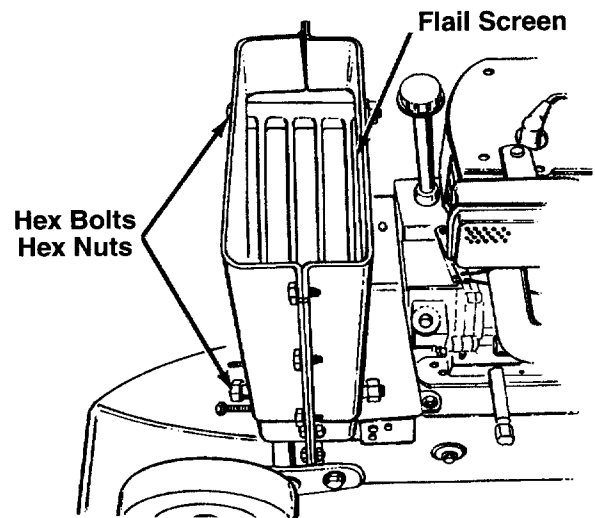

Figure 13
4. Remove the two hex bolts and hex nuts which extend through the housing. Lift the flail screen from inside the housing. See Figure 13.
NOTE: Be certain to reassemble the flail screen with the curved side down as shown in Figure 13.
11. Remove the two hex bolts and hex lock nuts which extend through the housing. Lift the flail screen out of the housing. See Figure 13.